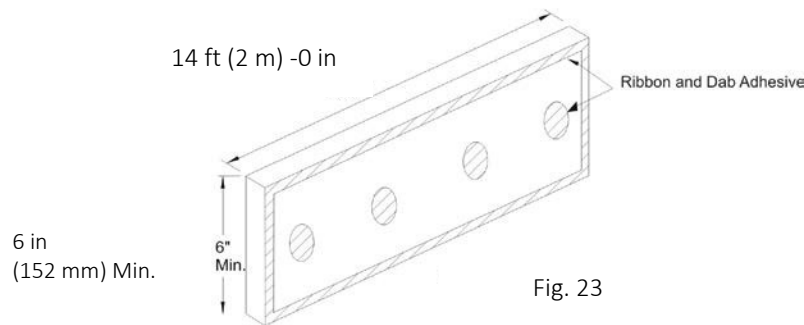

Fig. 23
8. Tops of walls, sills of continuous windows and other horizontal system terminations are terminated using 6 in or 12 in x 48 in (152 mm or 305 mm x 1.2 m) closure blocks. These are adhered to the substrate using a ribbon and dab adhesive pattern as shown in the Figure 23.